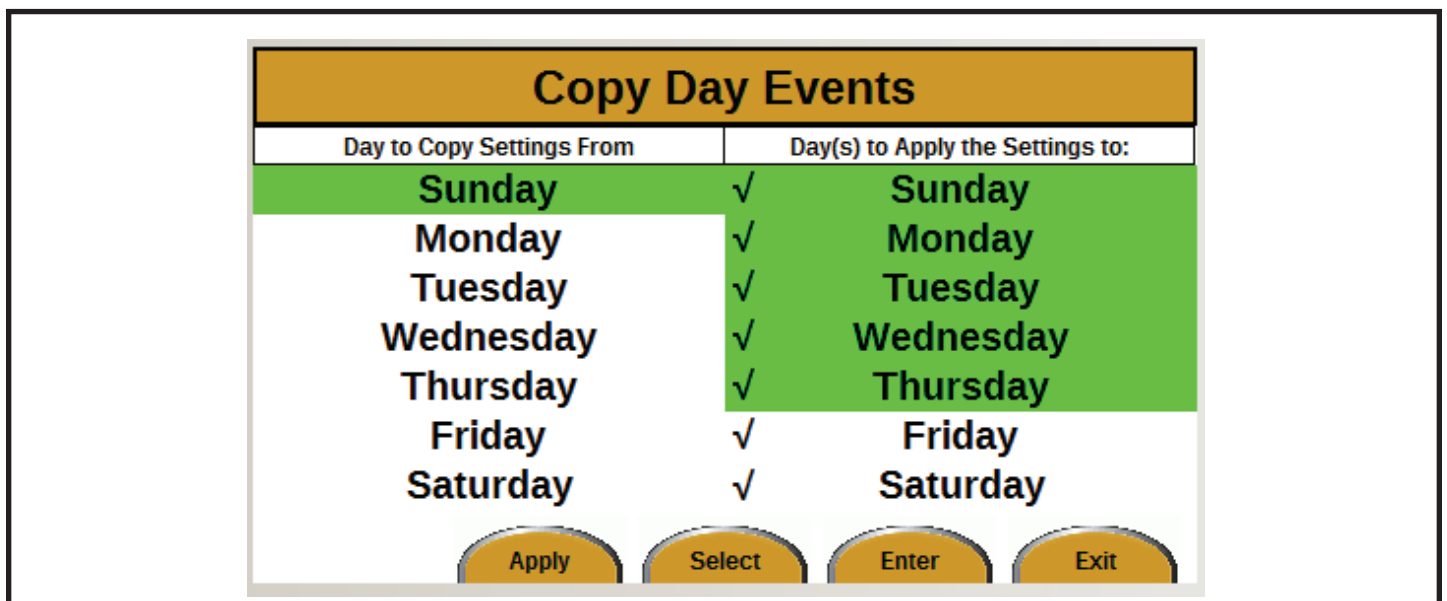

Figure 8
4. Press the Copy Day button. The Copy Day Events screen will appear (see Figure 8).
In Figure 8, the settings for Sunday will be copied to the other six days.